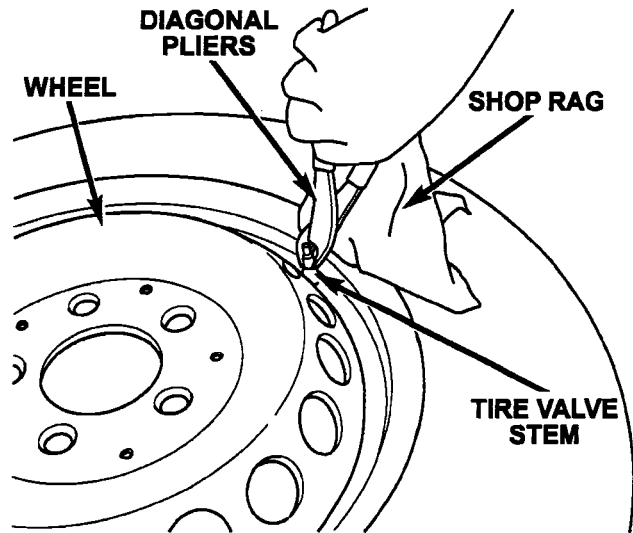

Figure 1 – Steel Wheel Shown
9. Cut and remove the outer portion of the tire valve stem with a pair of diagonal pliers (Figure 1). Use a shop rag or towel to protect the wheel from damage.